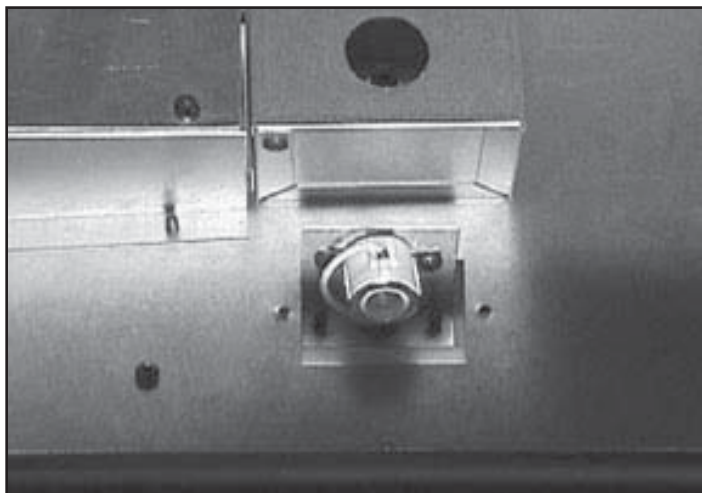

Figure 10.8 Light Base Assembly
- Take the light base assembly and position it into the rectangular hole. Using the screws removed in the previous step, attach the light base to the valve plate. See Figure 10.8. Repeat for the other side.